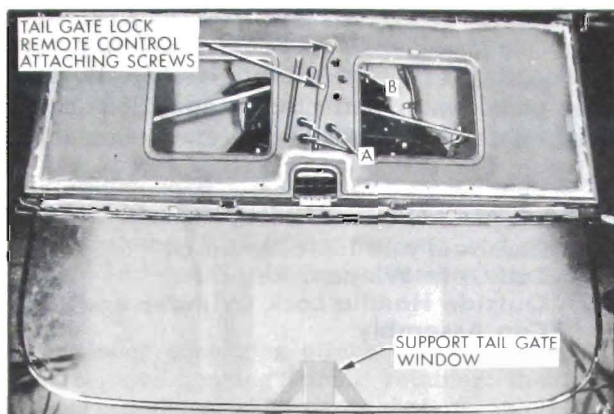

Figure 4-20—Window Regulator Removal
2. To correct a condition where the glass is "cocked" in the glass run channels, loosen window regulator attaching screws (Figure 4-20), rotate regulator assembly clockwise or counterclockwise, as required, to eliminate "cocked" condition.
2. Detach tail gate lock remote control right connecting rod from remote control at "A" (Figure 4-20).
4. Remove regulator attaching screws through access holes at locations shown in Figure 4-20. Remove regulator assembly through large access hole.
2. Detach tail gate inner panel water deflector sufficiently to gain access to access holes, shown at "B" in Figure 4-20, for removal of handle attaching nuts.
3. Carefully raise window until holes in window regulator are aligned with inner panel access holes, shown at "B" in Figure 4-20, for removal and installation of outside handle attaching nuts.
CAUTION: Support portion of window assembly extending out of tail gate (Figure 4-20).
4. Through access holes, shown at "B" in Figure 4-20, remove tail gate handle attaching nuts and remove handle assembly and gasket from tail gate. To assemble tail gate handle assembly, see "Tail Gate Handle Assembly--Disassembly and Assembly".
2. Detach tail gate inner panel water deflector sufficiently to gain access to access holes, shown at "B" in Figure 4-20, for removal of assembly attaching nuts.
3. Carefully operate window upward until holes in window regulator assembly are aligned with inner panel access holes, shown at "B" in Figure 4-20, for removal and installation of attaching nuts.
4. Through access holes, shown at "B" in Figure 4-20, remove lock cylinder, switch and escutcheon assembly attaching nuts. Detach assembly from tail gate outer panel sufficiently to disconnect junction block from switch; then, remove assembly and gasket from tail gate.